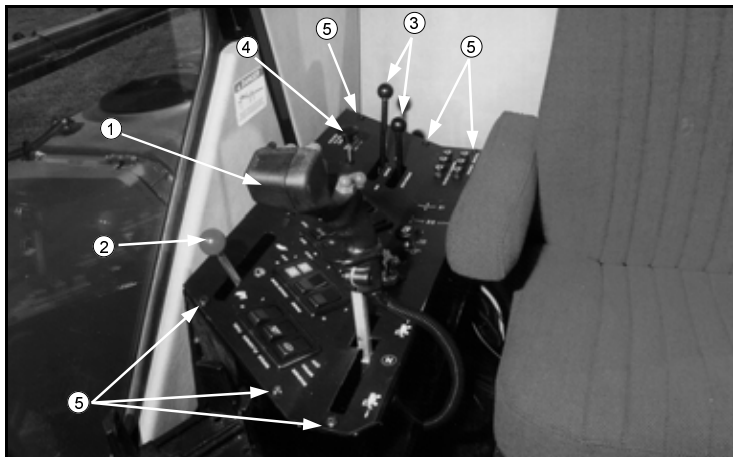

FIG 8.48
To access the circuit breakers remove the hydrostatic handle (fig. 8.48, item 1), engine throttle knob (fig. 8.48, item 2), VFC lever knobs (fig. 8.48, item 3), four wheel drive knob (fig. 8.48, item 4), and panel screws (fig. 8.48, item 5).